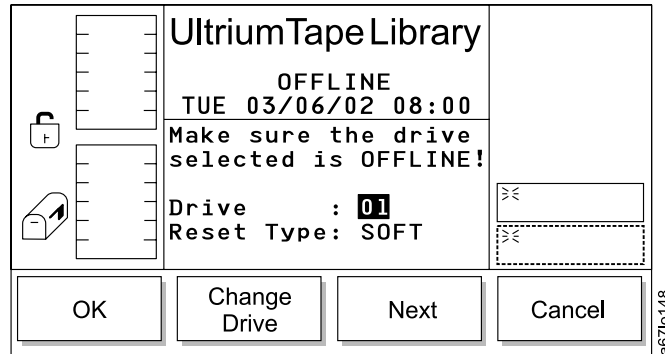

Figure 134. Reset Dialog
- If **Reset** is selected, the Reset Dialog displays (see Figure 134 on page 119).